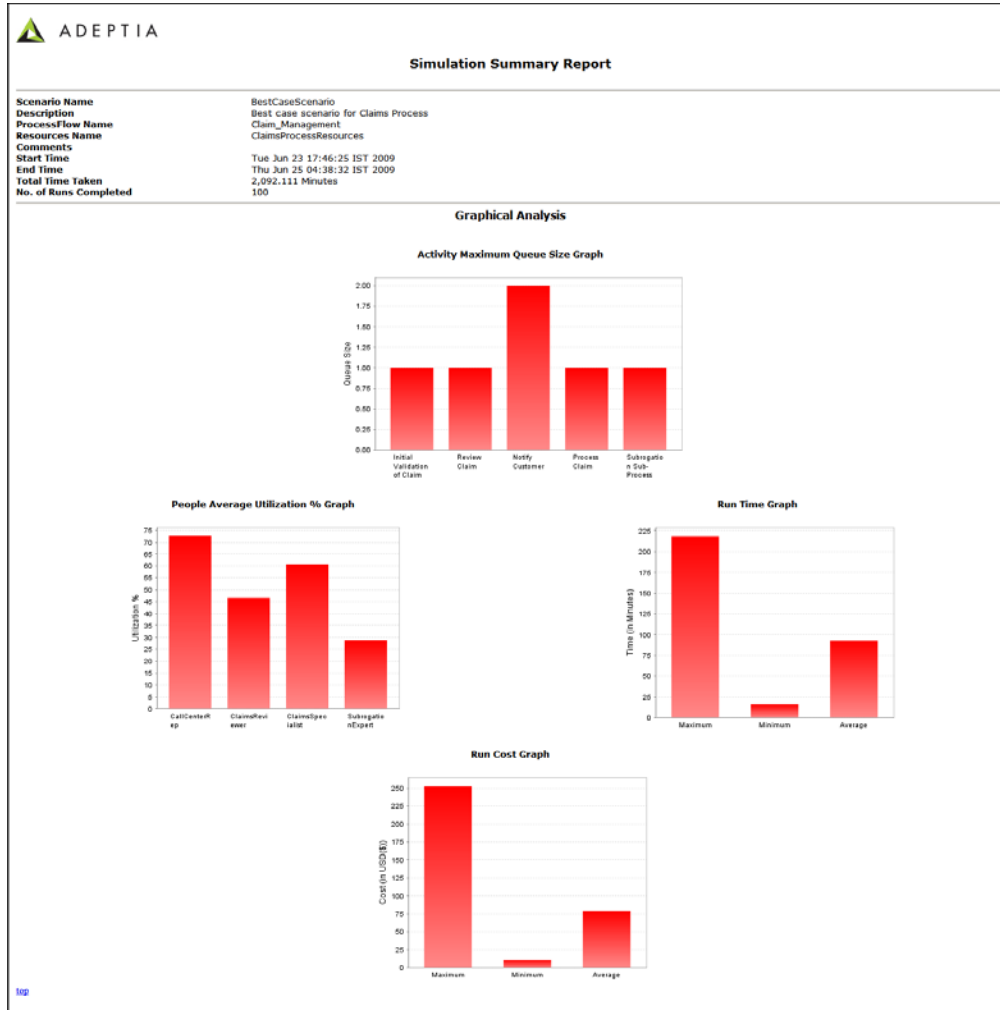

Figure 55: Simulation Summary Report (Graphical Analysis)
- To generate the simulation report, click **Generate Simulation Summary Report** () button from the tool bar. The report is generated in the HTML form and shown in your browser. Figure 55 shows the **Simulation Summary and Graphical Analysis** report.